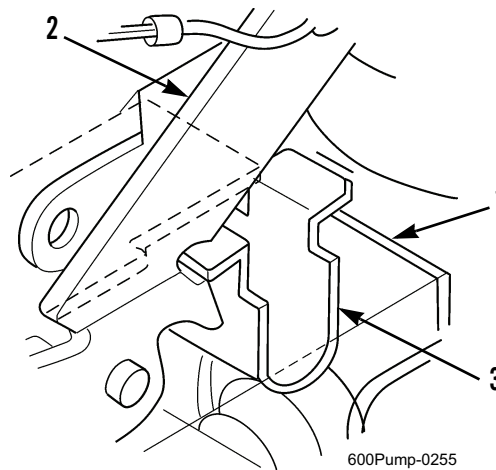

Figure 2. Correct Leaf Spring Position.
1. Install breakaway lever (Figure 2, Item 2) and leaf spring (Figure 2, Item 3) in actuator housing (Figure 2, Item 1).